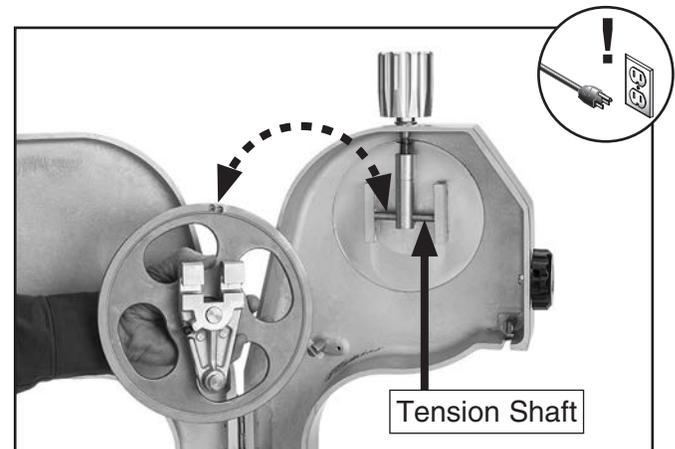

Figure 17. Upper wheel removed from shaft.
4. Lift upper wheel and remove from tension shaft (see **Figure 17**).